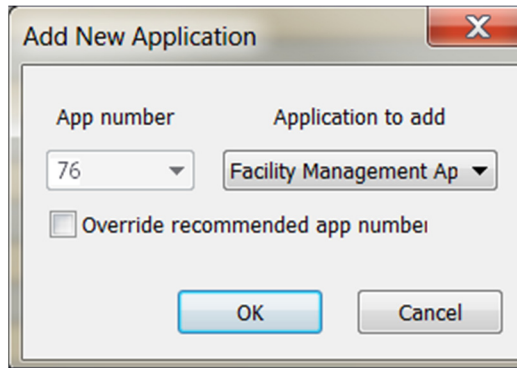

Figure 7: Facility Management application
4. Locate and select **Facility Management App** from the dropdown list (Figure 7). The application may be assigned to any slot. In this instance we have used application number 76.